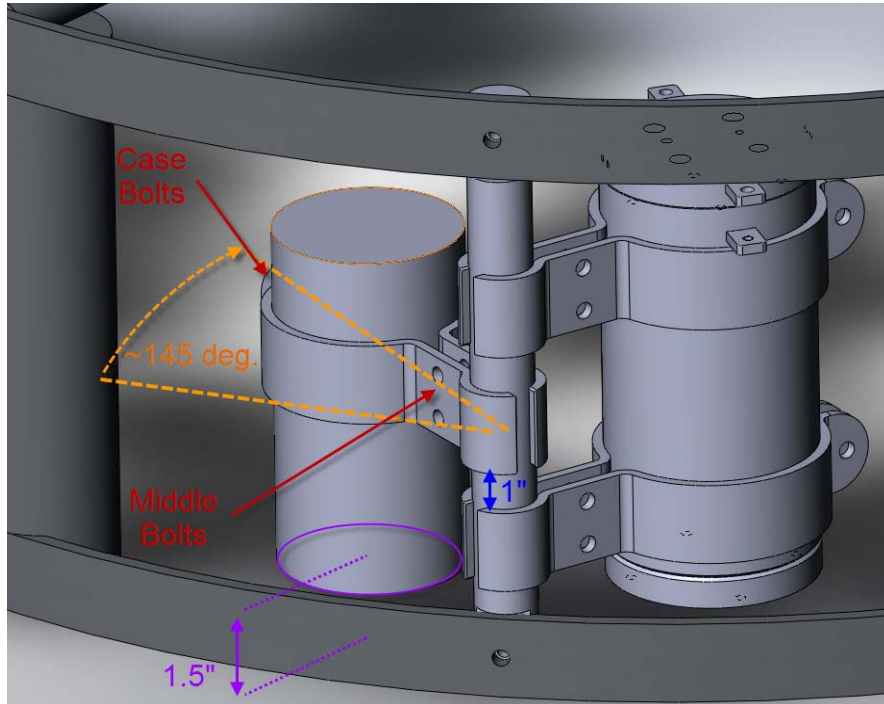

Figure 9: Placement of altimeter.
- Position altimeter as shown, (Figure 9). Place dunnage under case to raise sonar head ~1.5” above rosette base. Be careful not to damage sonar head. Install battery clamps as shown with supplied stainless hardware. First tighten two middle bolts, until clamps do not rotate on mounting post, then tighten case bolt. Remove dunnage.